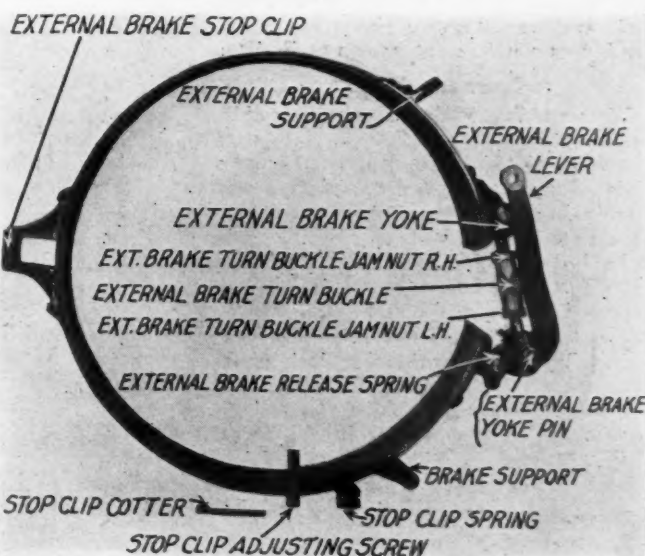

Fig. 6. To Remove External Brake Displace Cotter Pin, Stop Adjusting Screw and Spring Shown, Then Brake Bolt Nuts From Each of Adjusting Bolts
brake support. Pull brake lever outward, compressing band, and use a screw driver to pry band away from brake band support. The band is displaced complete, or as shown at Fig. 6.
**Removing External Brakes**—Remove cotter pin from stop adjusting screw (see Fig. 2) and remove screw and coil spring. These are shown displaced in Fig. 6. Remove brake bolt nuts (2), top and bottom from each brake adjusting bolts. There are two to each brake. Remove the bolts (2), springs and washers. A washer is employed between each end of spring and